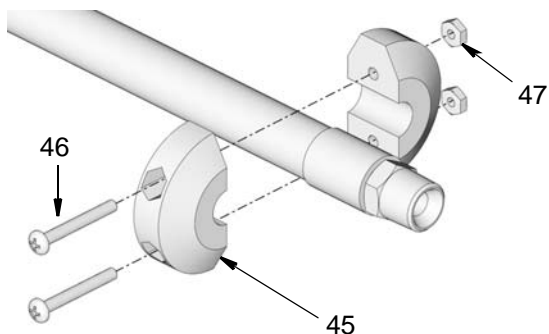

FIG. 82
14. Install ball stop and dispensing valve (FIG. 82).